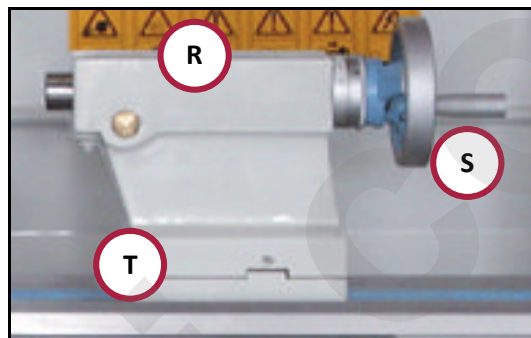

Figure 24 – Lever and handwheel of the tailstock.
On the tailstock there are manual controls (levers, handwheels and screws) which allow fine adjustments and feed adjustments (see Figure 24).
(R) Quill locking lever: The lever allows the tailstock quill to be locked (located on the side not visible in Figure 24)